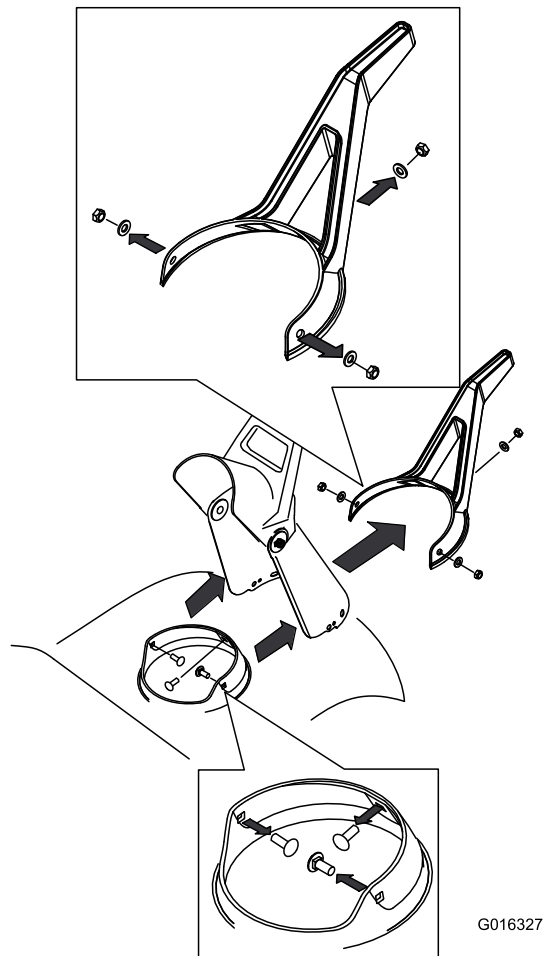

Figure 33
3. Remove the discharge chute by removing the three screws holding the chute, and the screws holding the chute seal (Figure 33).